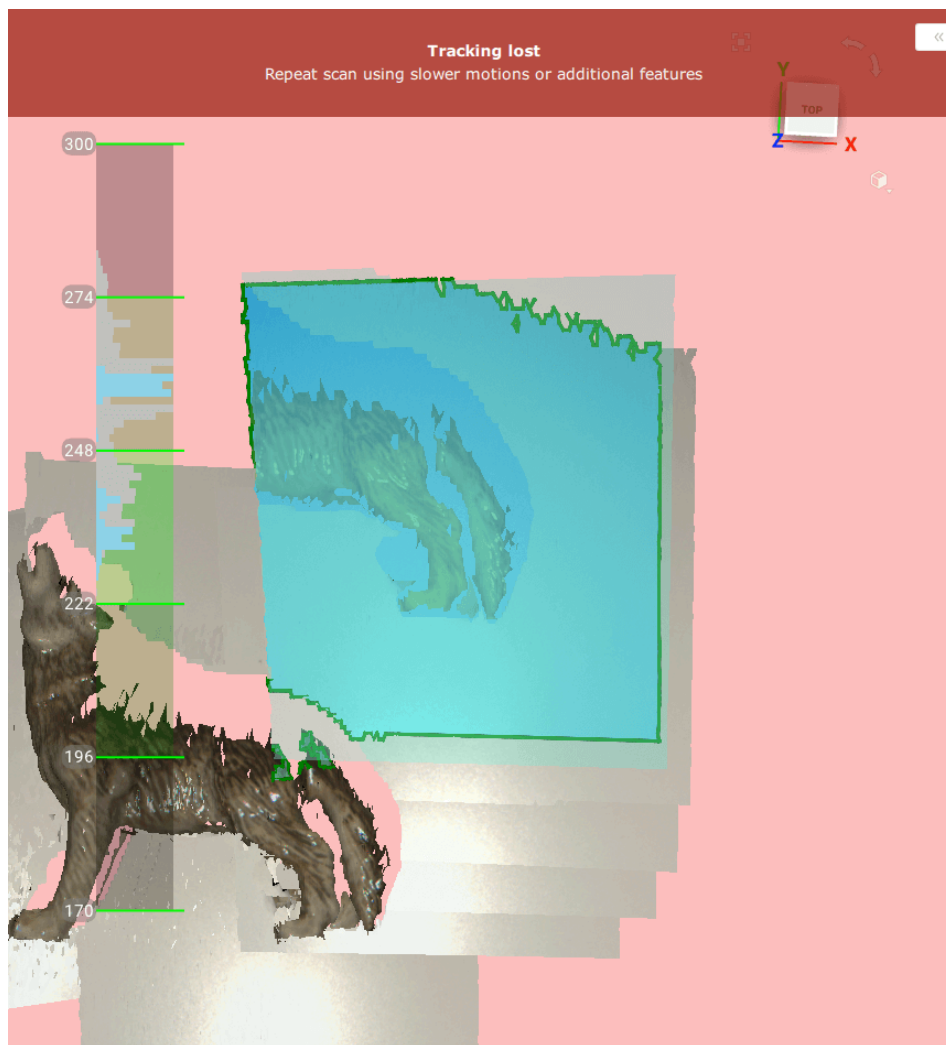

Figure 42: Alert message: tracking lost.
- Artec Studio switches almost instantly from displaying *Tracking lost* mode (see Figure 42) to *Searching for position*, which appears on a green background.